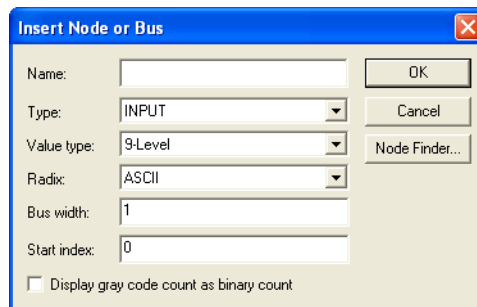
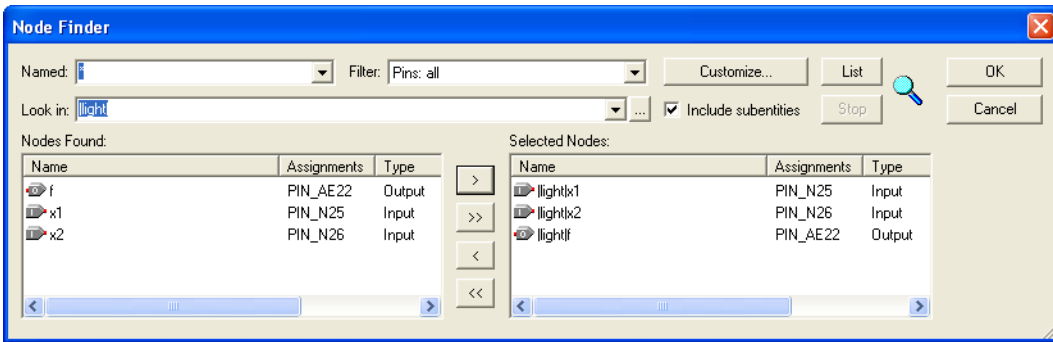
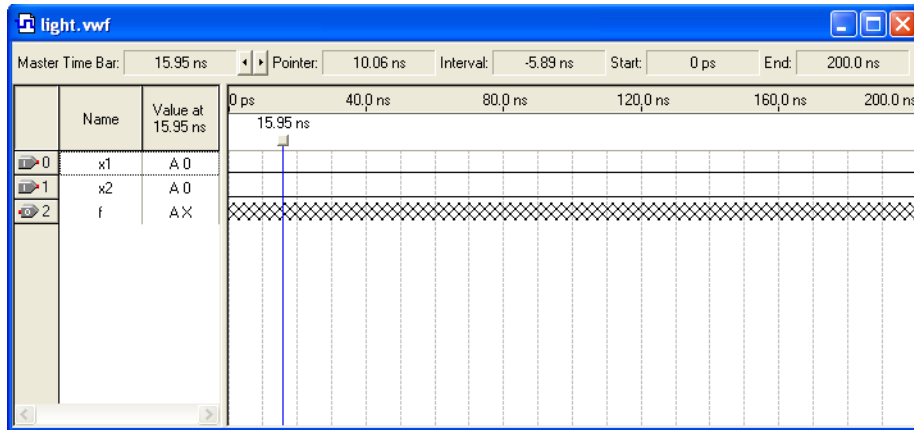

Figure 32. The Insert Node or Bus dialogue.
Figure 33. Selecting nodes to insert into the Waveform Editor.
Figure 34. The nodes needed for simulation.
- Next, we want to include the input and output nodes of the circuit to be simulated. Click **Edit > Insert > Insert Node or Bus** to open the window in Figure 32. It is possible to type the name of a signal (pin) into the Name box, but it is easier to click on the button labeled **Node Finder** to open the window in Figure 33. The Node Finder utility has a filter used to indicate what type of nodes are to be found. Since we are interested in input and output pins, set the filter to **Pins: all**. Click the **List** button to find the input and output nodes as indicated on the left side of the figure.
Click on the  $x1$  signal in the Nodes Found box in Figure 33, and then click the > sign to add it to the Selected Nodes box on the right side of the figure. Do the same for  $x2$  and  $f$ . Click OK to close the Node Finder window, and then click OK in the window of Figure 32. This leaves a fully displayed Waveform Editor window, as shown in Figure 34. If you did not select the nodes in the same order as displayed in Figure 34, it is possible to rearrange them. To move a waveform up or down in the Waveform Editor window, click on the node name (in the Name column) and release the mouse button. The waveform is now highlighted to show the selection. Click again on the waveform and drag it up or down in the Waveform Editor.